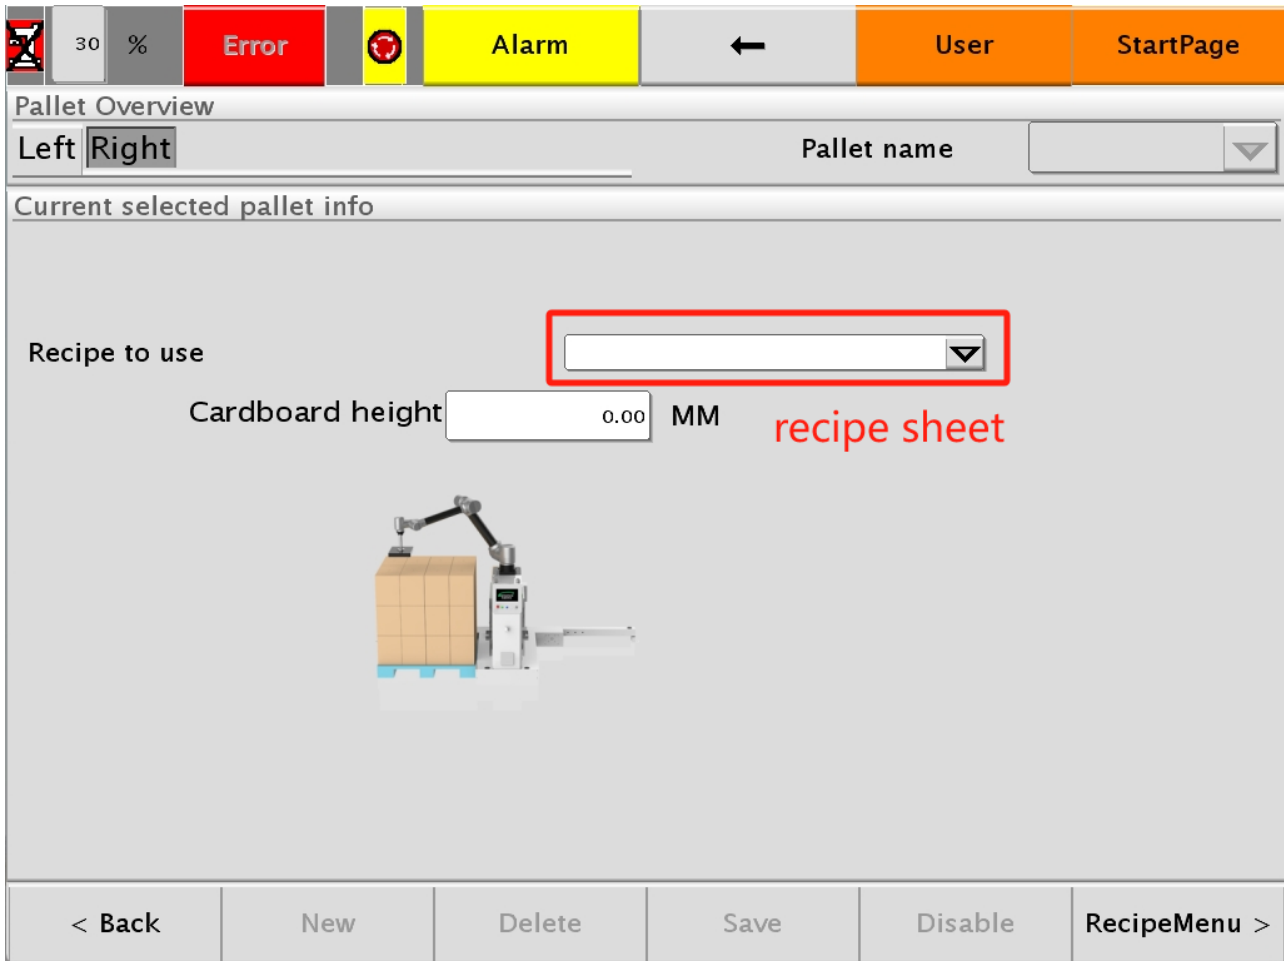

Figure 30
(1) Click "**Pallet Setting**" in the main interface, and the screen shown in **Figure 30** below will pop up.